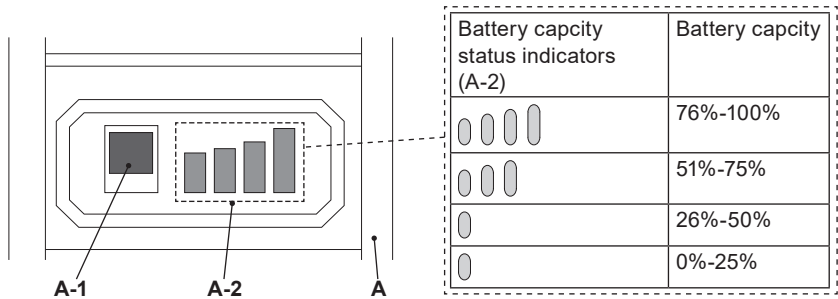

Fig. 5
The battery pack (A) is equipped with battery capacity indicators (A-2) which are used to give an indication of the battery pack's remaining capacity. Press the battery capacity button (A-1) to check battery capacity (Fig. 5). The LEDs will stay lit for approximately 5 seconds.